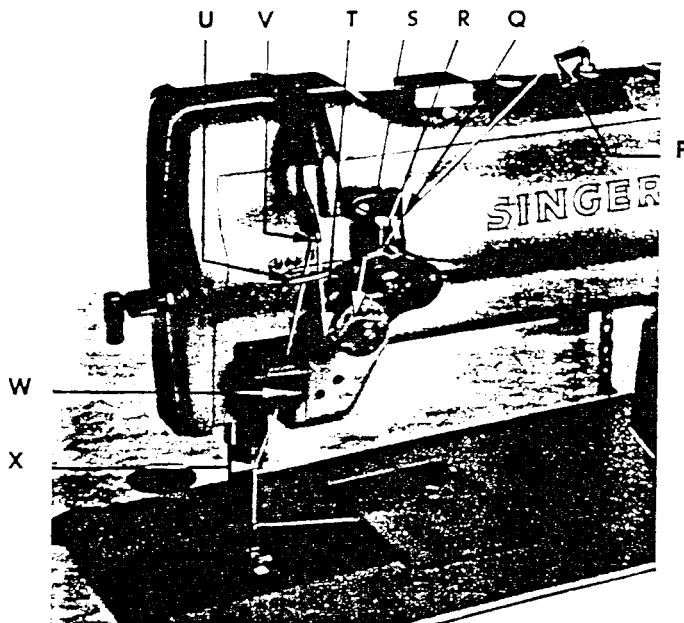

Figure 12
## THREADING OF NEEDLE THREAD (Figure 12)
thread guide "P", Fig. 12, which is mounted on the arm cover. From there, pass the thread through the three (3) holes of the thread tensioner guide "Q". Starting with the top hole, thread from right to left, from left to right through the middle hole, and from right to left through the bottom hole. Pass the thread over and between the tension discs "R", from right to left, and wind it under and around thread controller "S" from right to left. It is placed under the controller spring "T" and over the controller projection so that the controller spring holds the thread down. Pull the thread through the thread guide "U" and then from right to left through the eye of the thread take-up "V". Pass it back again through the thread guide "U", lead it behind the oil felt pad "W" and then draw the thread through the thread guide "X", and from left to right through the eye of the needle.